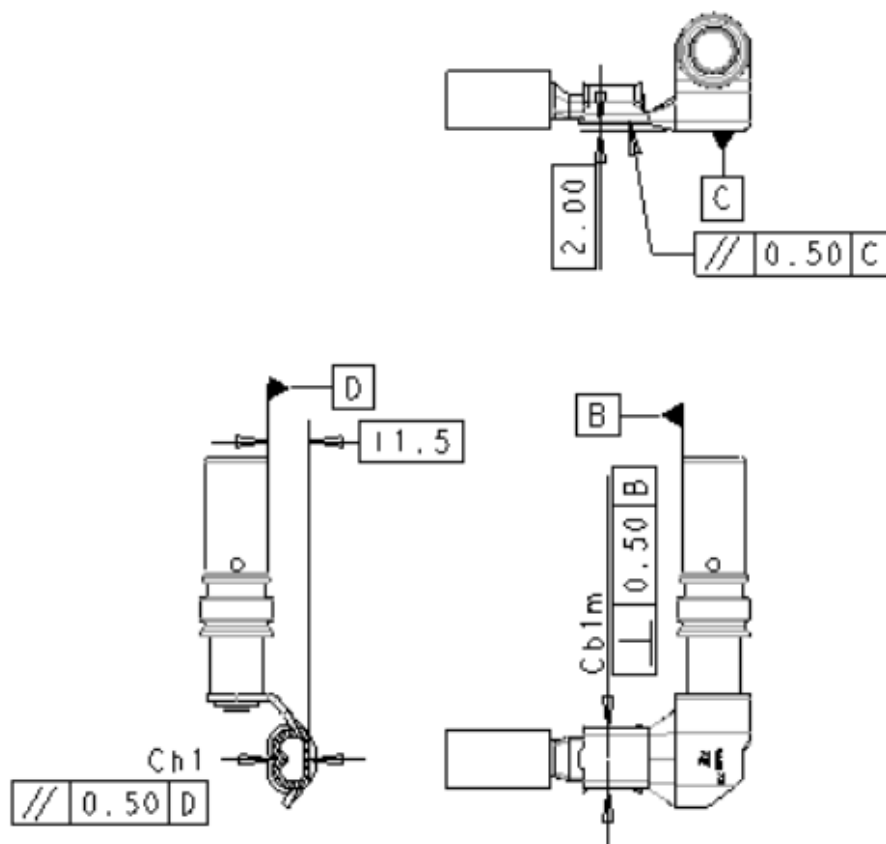

Fig.5 (图5)
4.5 Shape and Positional Tolerance of the Crimped Contact (see fig.5)
4.5 压接端子外形及位置公差(见图 5)